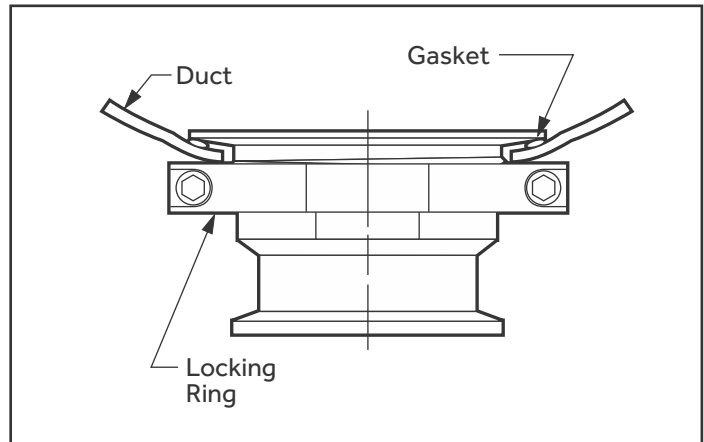

Fig. 34: Field Installed 2" FT Flange Configuration
5. Install Fab-Tech Flange: Remove the backing and apply die-cut PermaShield Gasket to the inside flange of the fitting. Place the fitting in the swaged hole from inside the duct so that the gasket forms a seal between the inside flange and the duct. Thread the matching split locking ring onto the fitting and tighten until snug. Using the appropriate size wrench on the locking ring and the flats on the fitting, tighten the locking ring until there is resistance to further tightening. Installation is complete. (Fig. 34)